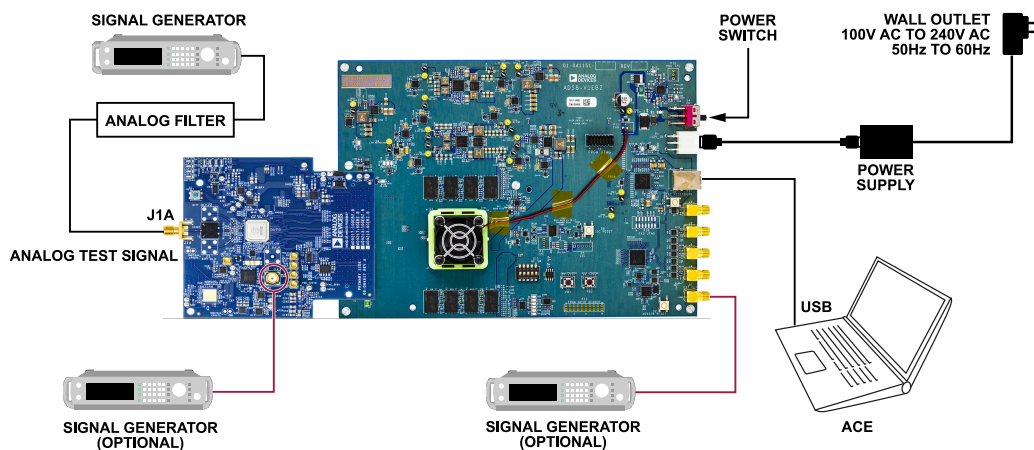

Figure 1. Evaluation Board and ADS8-V1EBZ Data Capture Board, Default Configuration with External Clocks
3. Connect a signal, clocks (optional), power, and USB cables to the boards as shown in Figure 1.